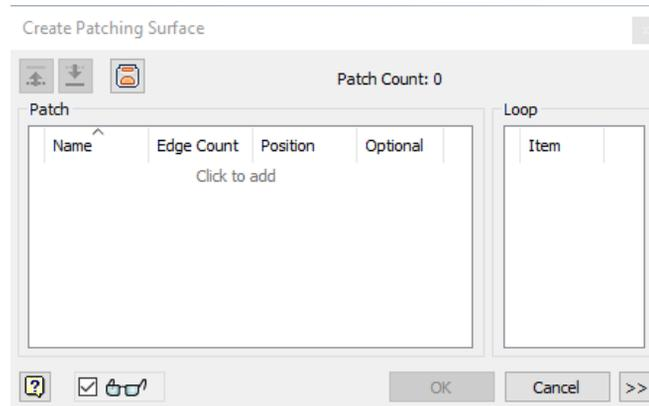

Figure 19-53 The Create Patching Surface dialog box
1. Choose the **Create Patching Surface** tool from the **Parting Design** panel in the **Core/Cavity** contextual tab of the **Ribbon**; the **Create Patching Surface** dialog box is displayed, as shown in Figure 19-53.